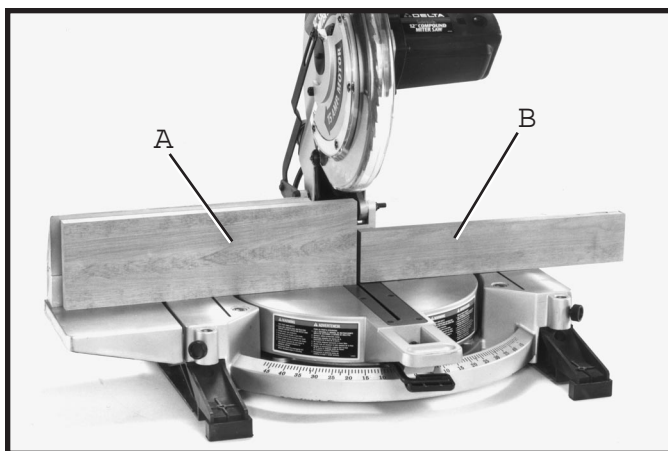

Fig. 43
Holes are provided in the fence to attach an auxiliary fence (A) and (B) Fig. 43. This auxiliary fence is constructed of straight wood approximately 1/2 inch thick by 3 inches high by 20 inches long as shown at (B); and 1/2 inch thick by 4-3/4 inches high by 20 inches long as shown at (A) Fig. 43. NOTE: The auxiliary fence (A) is used ONLY with the saw blade in the 0 degree bevel position (90 degrees) to the table. When bevel cutting (blade tilted) the auxiliary fence will have to be removed.